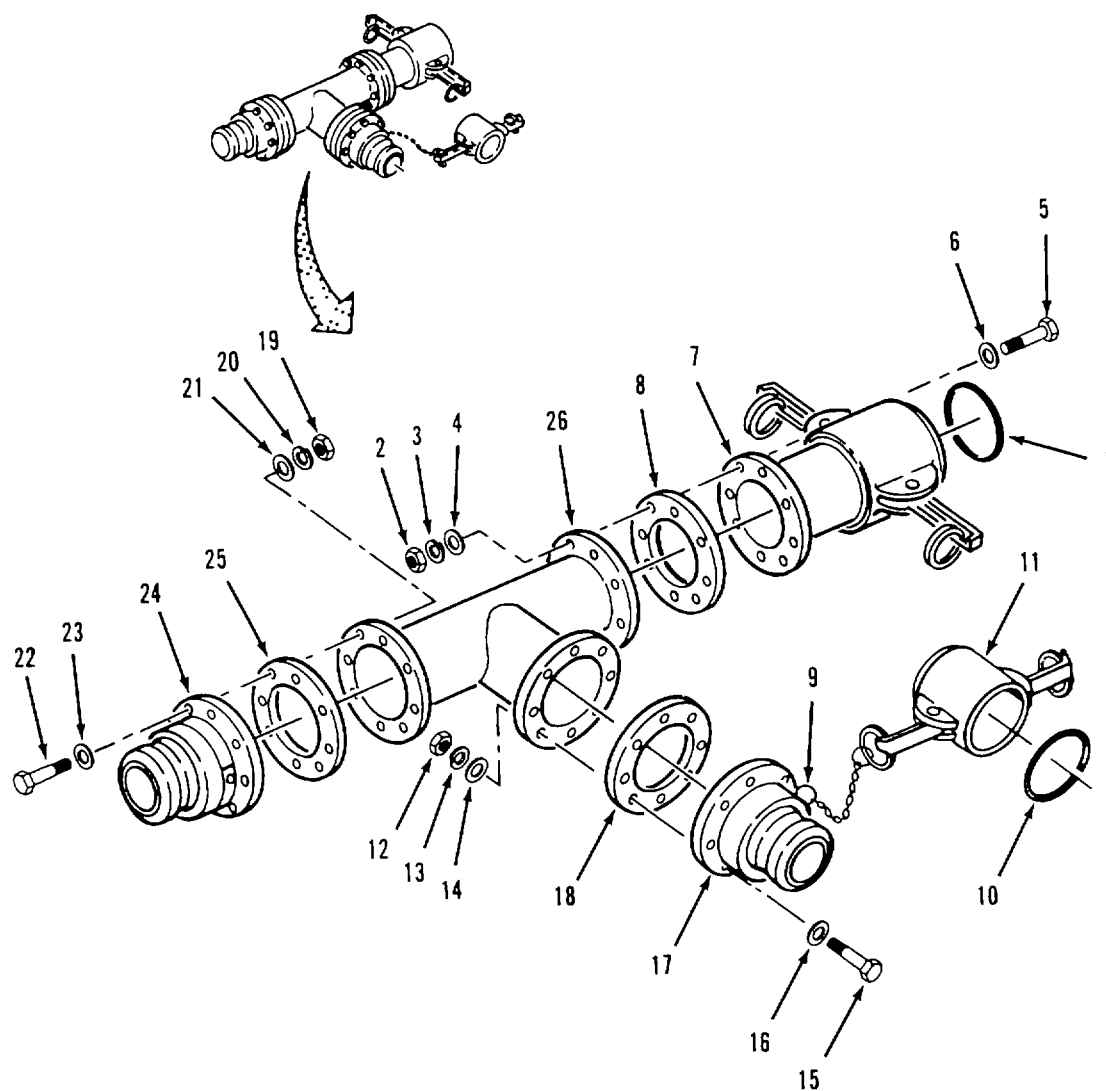

Figure 4-22. Tee Assembly (9112-Y2) Assembly.
e. Assembly. Refer to figure 4-22.
- (1) Position gasket (25) and male coupling (24) on tee (26).
- (2) Install eight flat washers (23), screws (22), flat washers (21), lockwashers (20) and nuts (19).
- (3) Position gasket (18) and male coupling (17) on tee (26).
- (4) Install eight flat washers (16), screws (15), flat washers (14), lockwashers (13) and nuts (12).
- (5) Connect ring (9) and attached cap (11) to male coupling (17).